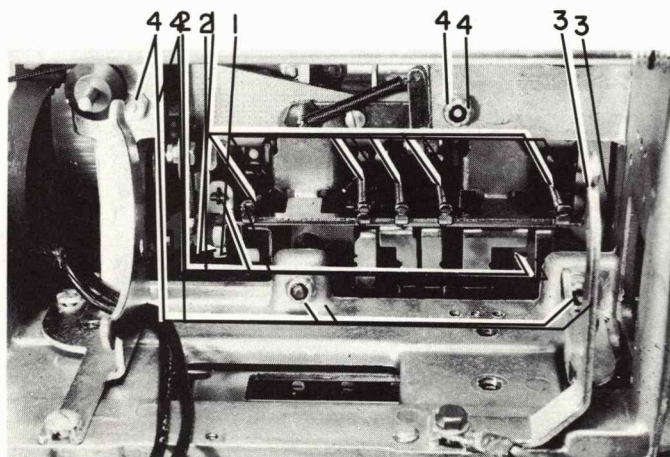

FIGURE 29. Differential Plate Removal
10. Remove all latch springs (#1, Figure 29).
11. Remove all latch links (#2, Figure 29).
12. Remove the left-hand motor mount (#3, Figure 29).
13. Remove the four differential mounting nuts (#4, Figure 29). Note: Do not lose the wedge in the lower-left mounting stud.